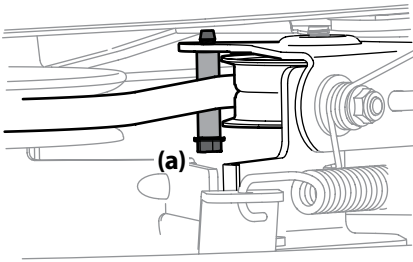

Figure 4-14
- Remove the belt keeper (30" decks only) by removing the hex bolt (a) that secures it. See Figure 4-14.